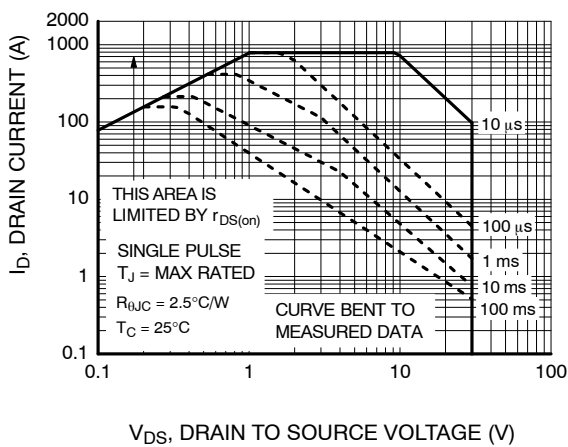

Figure 11. Forward Bias Safe Operating Area
- Pulse Id measured at 250 μs, refer to Figure 11 SOA graph for more details.